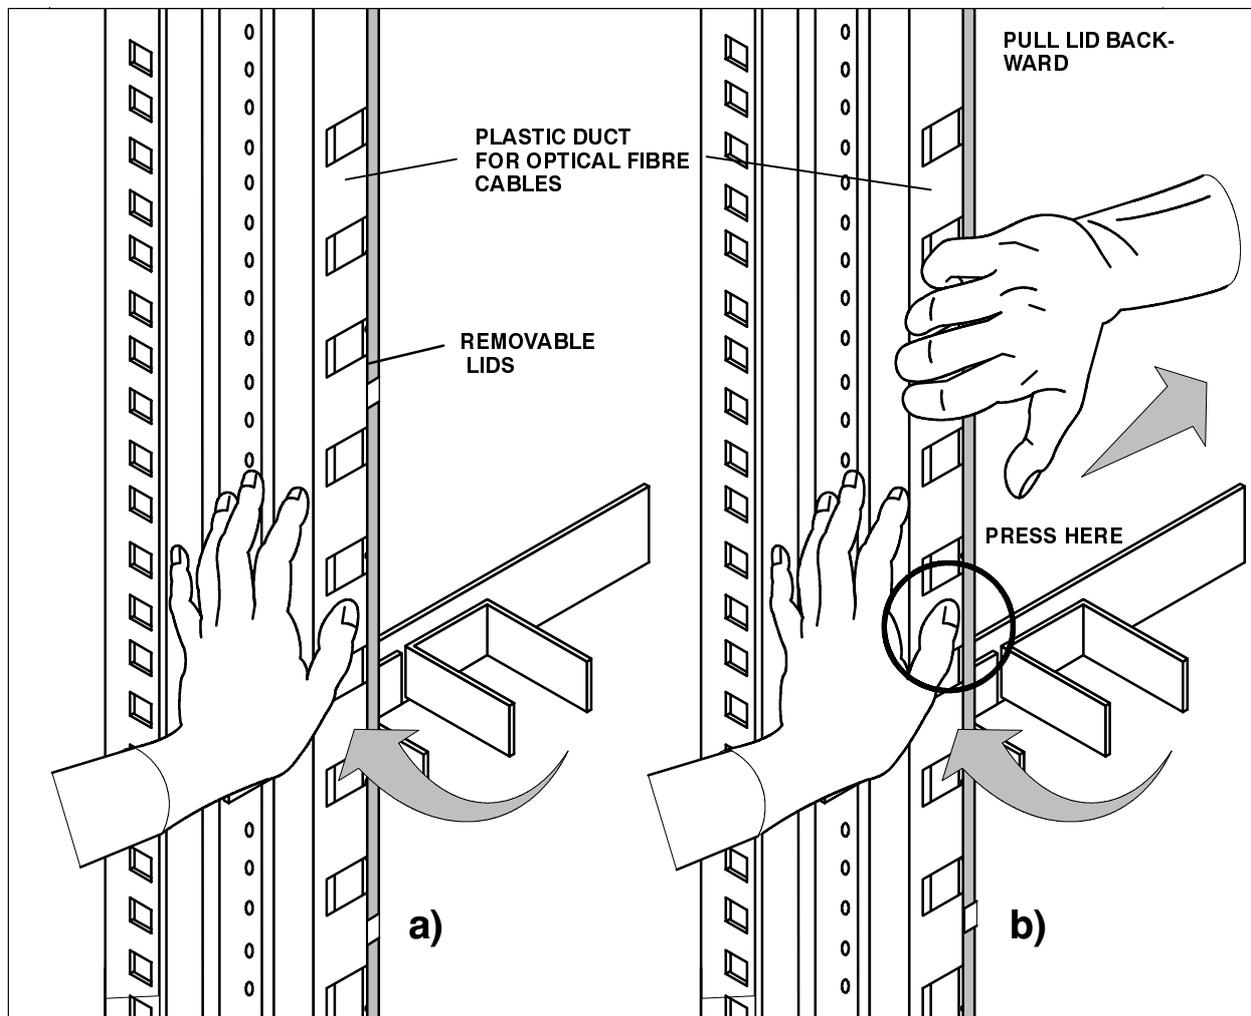

Fig. CC-23 Opening optical fibre plastic duct
3. Remove the front cover of the plastic raceway on the left-hand side of the rack by proceeding as follows (see Fig. CC-23):